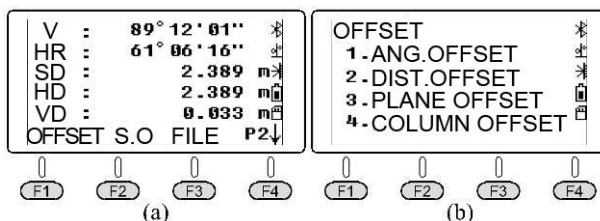
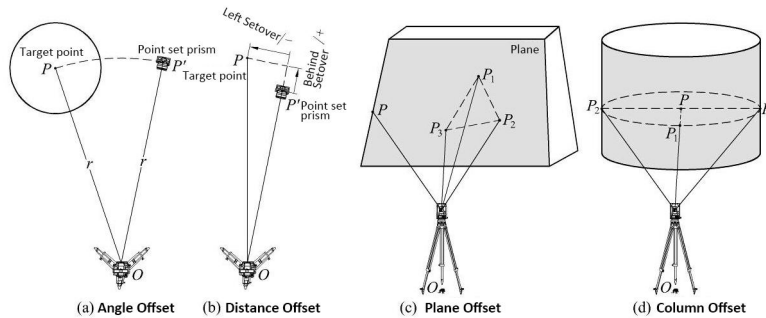

Figure2-25 Offset Menu of Distance Mode
Figure 2-26 Principle of Offset measurement
① Angle Offset: As shown in Figure 2-25(a), the instrument is placed at the survey station O. When the target point P is inconvenient to place the prism, the prism can be placed at the point P' near point P, requiring the horizontal distance $OP=OP'=r$.
In the menu of Angle Offset [Figure 2-25(b)], press **1** (Angle Offset) and aim at the center of prism of point P' . Press **F1** (MEAS), the case data is shown in Figure 2-26(b). Turn the alignment part and aim at the target point P [Figure 2-26(c)]. Press **CORD** to switch the screen to display the 3D coordinates of the target point P [Figure 2-26(d)]. Press **CORD** to switch the
screen to display the distance of the target point P [Figure 2-26(c)]. Press **F1** (Next) to continue Angle Offset of the next point. Press **ESC** to exit the Angle Offset.
② Distance Offset: As shown in Figure 2-26(b), when the point P to be measured is inconvenient to install a prism, a prism can be installed at point P' near point P . Input the left and behind setover of point P to point P' (left and right setover: the right one is positive; front and behind setover, the behind one is positive), and then execute the command of measurement.
③ Plane Offset: As shown in Figure 2-26(c), because point P is located at the edge of the plane, the coordinates of point P cannot be measured directly. Execute the command "Plane Offset", and measure the coordinates of any three points P_1, P_2, P_3 that are not on the same line on the plane to determine the plane equation. Then aim at point P , the instrument will automatically calculate the three-dimensional coordinates of point P on the plane.
④ Column Offset: It is often used to measure coordinates of the center of a cylinder. As shown in Figure2-26(d), set point *P* to be the center of the cylinder, point *P*₁ to be the intersection of line *OP* and the arc, and points *P*₂ and *P*₃ to be the left and right endpoints of the cylinder diameter respectively. Command "Column Offset" is to distance point *P*₁ first, and then aim at point *P*₂ and point *P*₃ respectively, after which the instrument will automatically calculate the 3D coordinates of the cylindrical center point *P*.